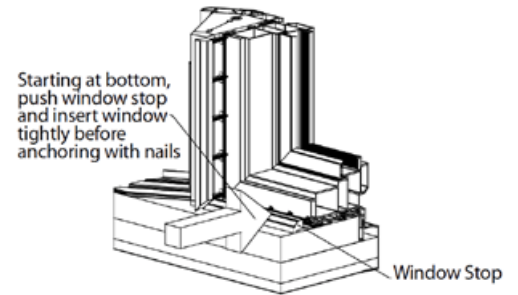

Figure F1
- Starting at sill (bottom), take the window stop trim labeled with a #B and insert it between the Timberstrand® mullions with mitered ends facing up. Push the window stop tightly against insert window before brad nailing it. (**Figure F1**)
- Repeat this process for the remaining pieces of window stop by installing the left (L) and right (R) pieces of window stop next and finishing with top piece (T) of window stop last.